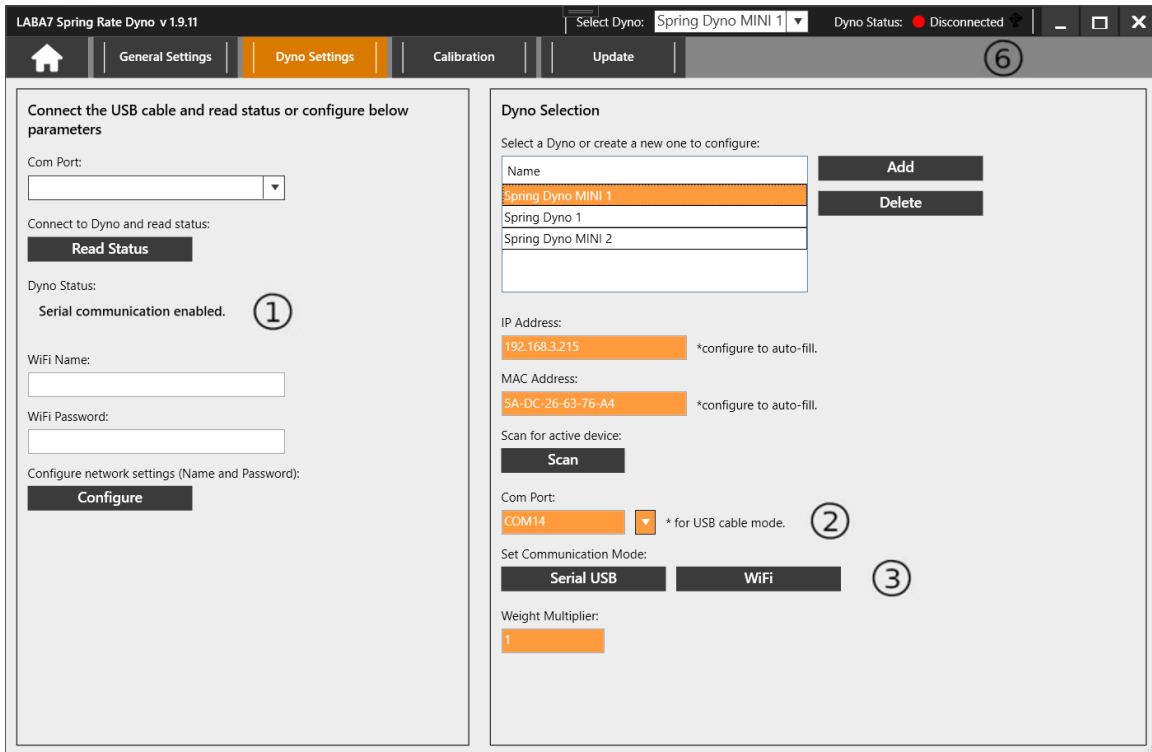

Figure 13
10. Note the Status that was received from the Dyno (Figure 13 – Step 1).
12. Select the Com Port of the connected Dyno from the drop-down menu in the Dyno Selection area (Figure 13 – Step 2).
13. Click on the **Serial USB** button to enable the USB communication mode in the Dyno (Figure 13 – Step 3).